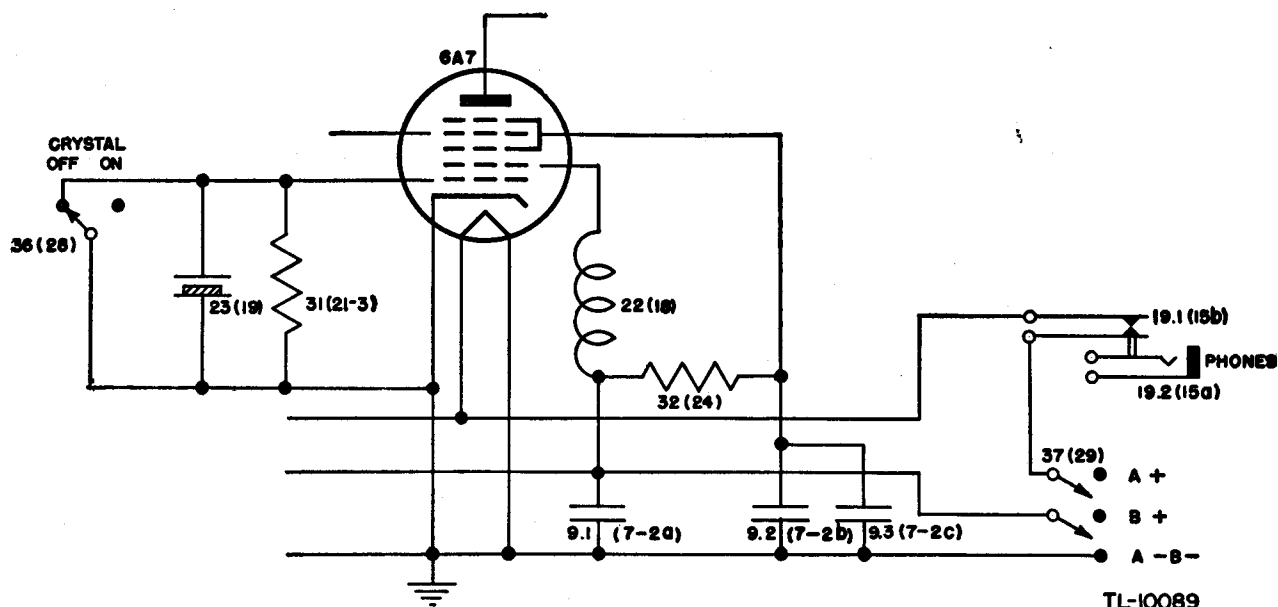
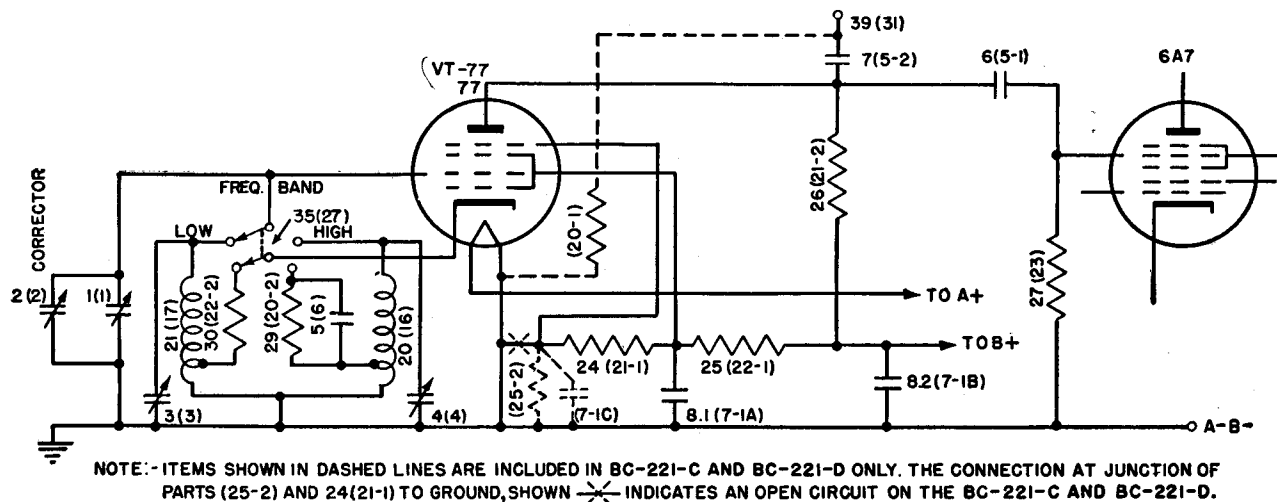

Figure 28. Frequency Meter BC-221-(1), functional diagram, crystal-oscillator circuit.
Figure 29. Frequency Meter BC-221-(1), functional diagram, variable frequency oscillator circuit.
(fig. 28), which operates at a fixed frequency of 1,000 kc when CRYSTAL switch 36 (28) is placed in the ON position. The crystal circuit is removed from operation when CRYSTAL switch 36 (28) is turned to the OFF position thus placing a short circuit around the crystal. The crystal circuit is designed to generate considerable harmonic energy so that it can be used to calibrate the variable frequency oscillator at several points over its entire range. The necessary plate circuit impedance is built up across an untuned inductance 22 (18) housed in a bakelite case of rugged construction and thoroughly sealed against moisture. Resistor 31 (21-3) shunted across crystal 23 (19) serves as the crystal oscillator grid leak. Resistor 32 (24) supplies
Tube VT-77 (77) is used in an electron coupled circuit as the variable frequency oscillator. (See fig. 29.)
of the type 6A7 tube is grounded. (See fig. 28.) By reference to figures 29 and 30, it can be seen that antenna plug 39 (31) is also coupled directly to the variable frequency oscillator output through capacitor 7 (5-2) alone. Thus, antenna plug 39 (31) serves the dual purpose of a detector input terminal for the measurement of frequencies of external origin and of a variable frequency oscillator output terminal for use in calibrating receivers. When the unit is employed for the latter purpose, a minimum of 2,000 microvolts of radio frequency energy will be available between the antenna terminal and ground (the chassis) at any frequency within the calibrated range.